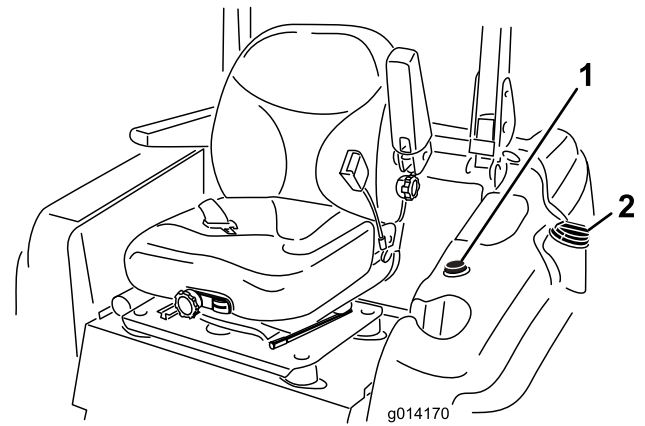

Figure 12
2. Clean around the fuel-tank cap and remove the cap (Figure 12).